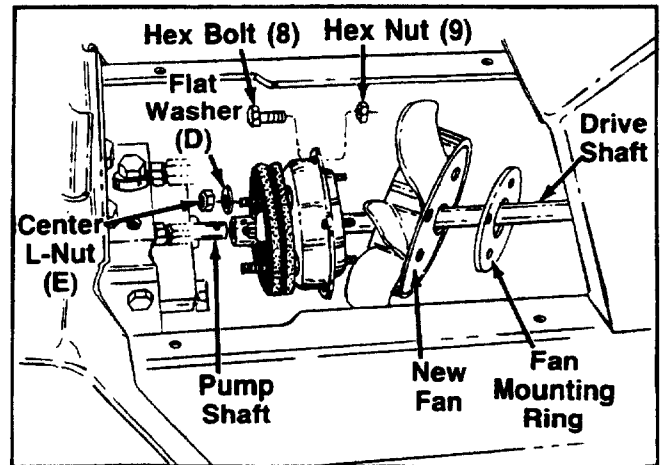
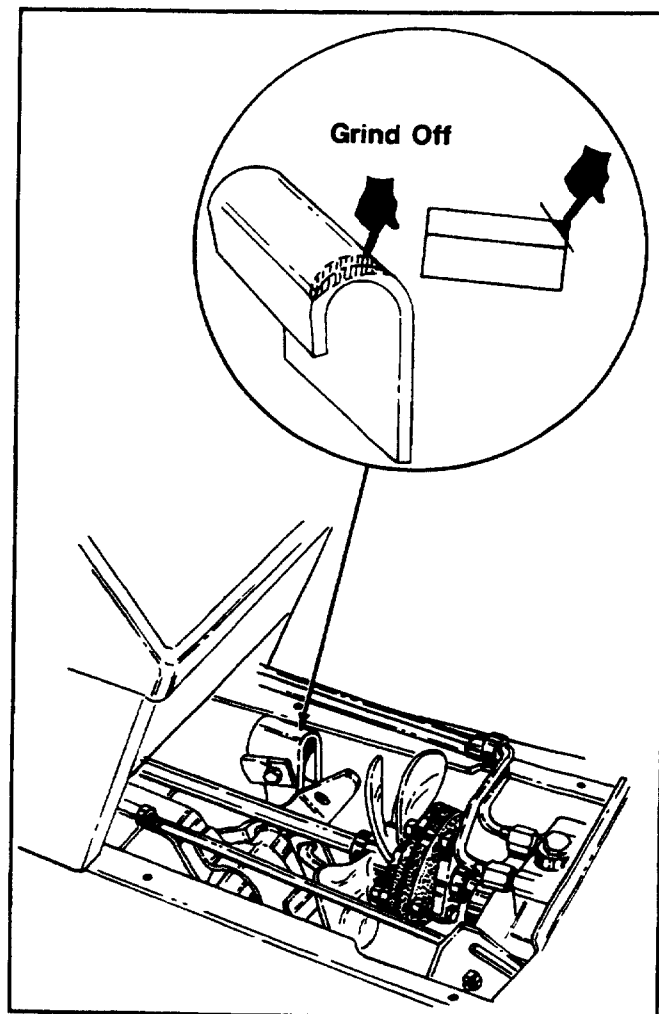

FIGURE 9.
FIGURE 11.
12. Remove (2) hex bolts (Ref. 8) and hex nut (Ref. 9) from clutch assembly, shown in figure 9.
16. Place front of drive shaft through coupling ①, flexible rubber discs and into alignable coupling as far forward as possible.
17. Insert a 1/4-20 bolt into coupling ① and line up hole in drive shaft.
18. Install coupling ③ with flexible discs onto drive shaft, and align (2) holes in flexible discs with bolts on rear clutch cover. See figure 9.
19. While holding clutch coupling and flexible disc assemblies together, line up with pump shaft and slide onto pump shaft. See figure 9.
25. Slide front clutch cover rearward and align four mounting holes with rear clutch cover and fasten securely with four hex bolts (H) and four hex patch nuts (C).
26. Assemble the two flat washers and lock nuts at rubber disc and rear clutch cover. Tighten securely. See figure 9.
27. Slide the new fan into position and secure with fan mounting ring and four hex patch nuts (C) (1/4-20 thread) provided in kit.
28. Move the lift unit on tractor to the highest position and check fan clearance at lift bracket. Grind off lift bracket if necessary. See figure 11.